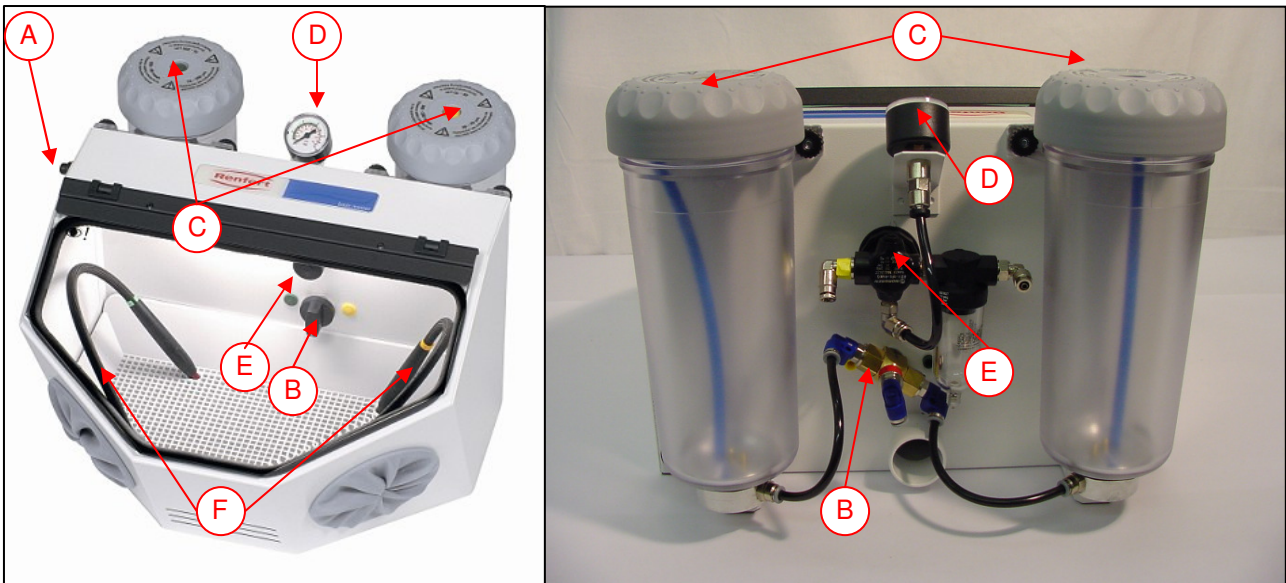
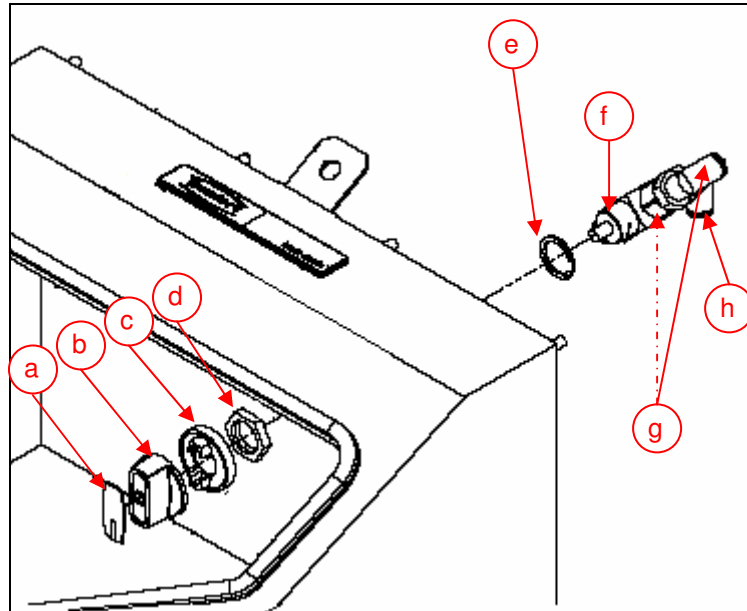

Fig.1 - Overview
Fig. 5 - Tank selector
- Pull the pressured air hose (for the foot switch) out of the push-in connector (fig. 5 h)
- Pull off the cap (fig. 5 a) from the selector knob (fig. 5b).
- Loosen the fixation nut of the knob (fig. 5 b) and take off the knob and the nut cover (fig. 5 c).
- Remove the nut (fig. 5 d) from the ball valve.
- Pull the pressured air hoses out of the push-in connectors (fig. 5 g) of the ball valve and take the tank selector out of the body.
- Insert the new tank selector (fig. 5 f) together with the aluminum sealing ring (fig. 5 e) into the body and fasten it with the nut (fig. 5 d) (Alignment 45° rotated (see fig. 1 b right)
- Push the pressured air hose into the push-in connectors (fig. 5 g) completely.
- Mark the bended push-in connector (fig. 5 h) with a red adhesive tape.
- Now add the nut cover (fig. 5 c) and the knob (fig. 5 b). Fasten the knob with his fixation nut in “down” position.
- Clip the knob cap (fig. 5 a) onto the knob.